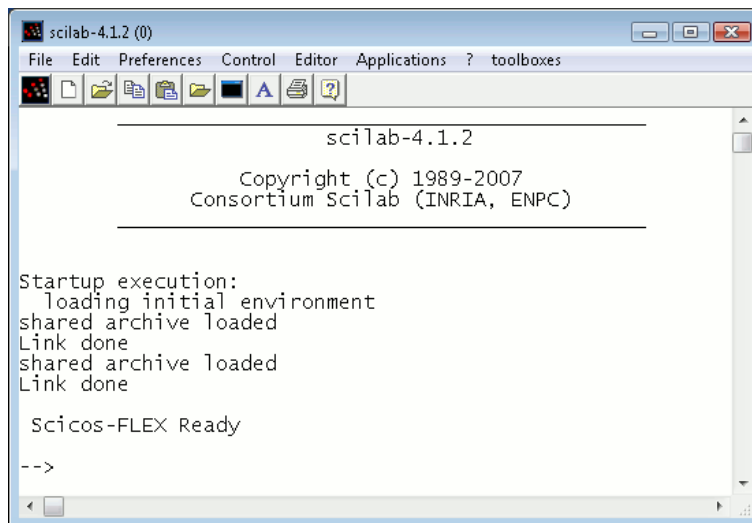

Figure 5.1: The Scilab splash screen. Type `scicos();` to start Scicos.
2. Type “`scicos();`”, as showed in Figure 5.1, and press Enter.